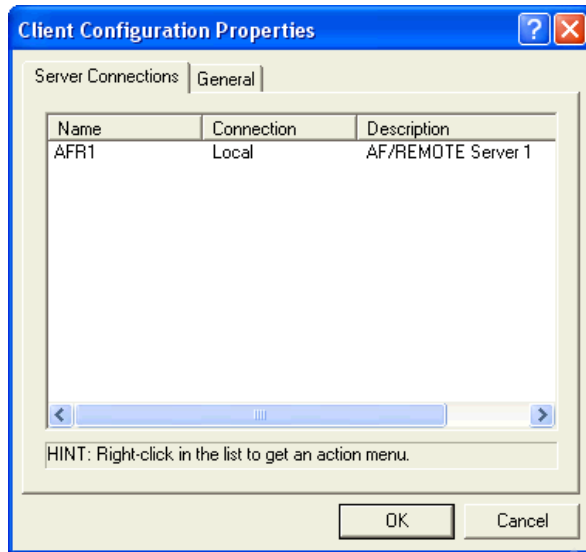

Figure F-6 Client configuration properties - part 1
3. The Client Configuration Properties panel is displayed (Figure F-6 on page 138). On the Server Connections tab, right-click in the Name list and select **Add**.